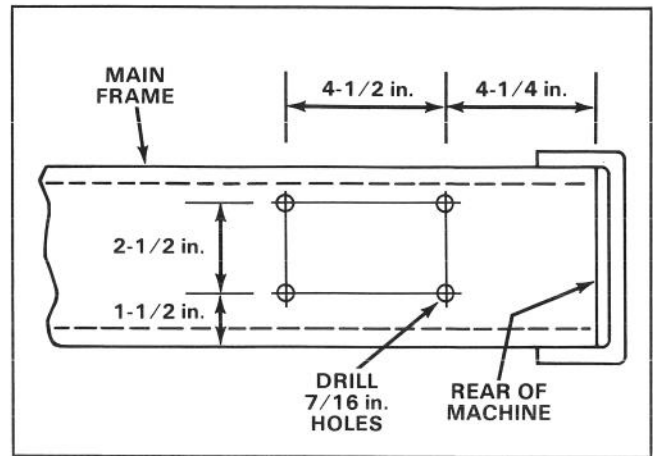

Figure 11
1. On right or left side of the machine frame, measure 4-1/4 in. forward from end of channel and scribe a line down the frame (Fig. 11).
2. Measure an additional 4-1/2 in. forward and scribe a line parallel to the first line (Fig. 11).
3. From the bottom of the frame, measure 1-1/2 in. up each line and center punch each location (Fig. 11).
4. From each center punched location, measure an additional 2-1/2 in. up on each line and center punch each location (Fig. 11).
5. Drill 7/16 in. holes in each location (Fig. 11).